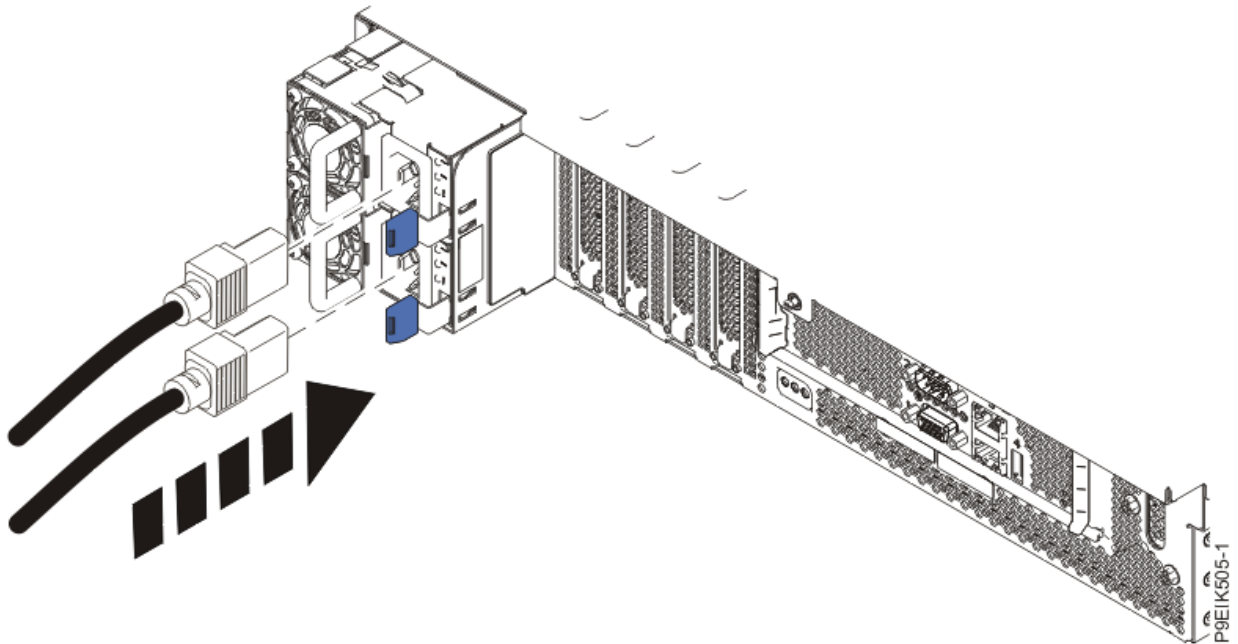

Figure 109. Connecting the power cords to the system
2. Using your labels, reconnect the power cords to the system unit as shown in Figure 109 on page 137.